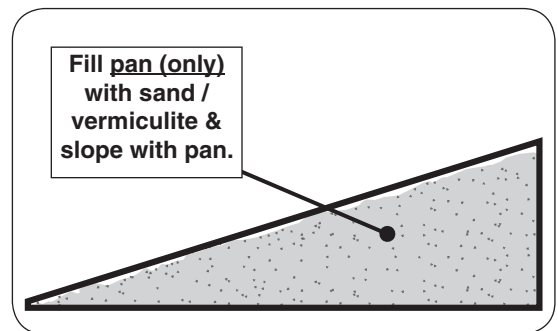

Fig. 20-4 Sand/vermiculite detail
2. **Slope the sand/vermiculite at the same angle as the burner pan.** This is important to ensure quiet lighting and even flame distribution. See Fig. 20-4.